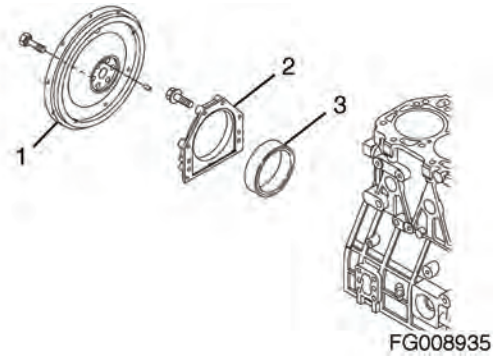

Figure 215
7. Apply threeBond Liquid Gasket to the mounting flange of the seal housing (2, Figure 215)
10. Reinstall the flywheel (1, Figure 215) and tighten the bolts to the specified torque. See "Special Torque Chart" on page -101. for specifications.